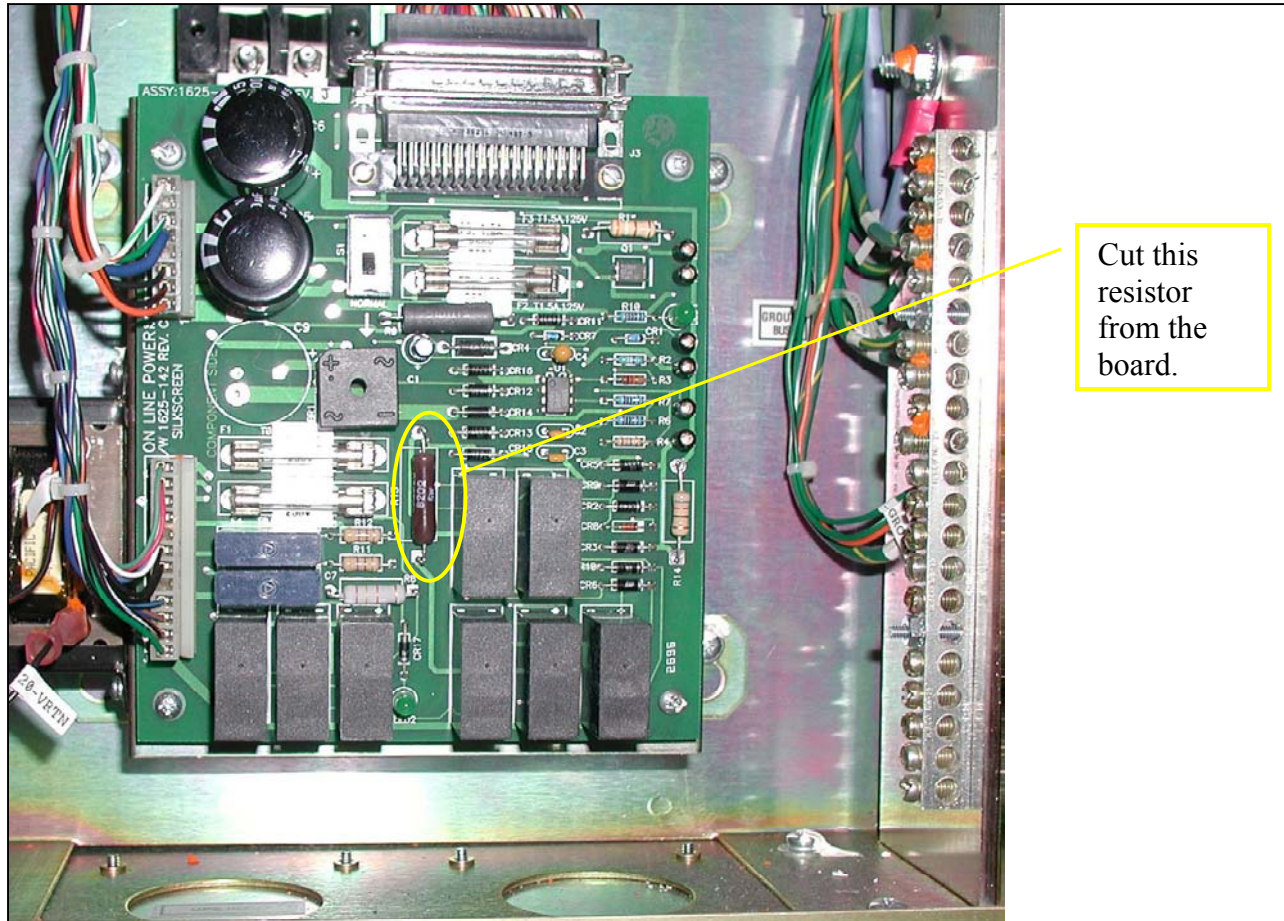

Figure 2 – Global PDU Relay Control Board Modification.
2. Refer to figure 2. Locate R13, cut both leads to remove and discard it.